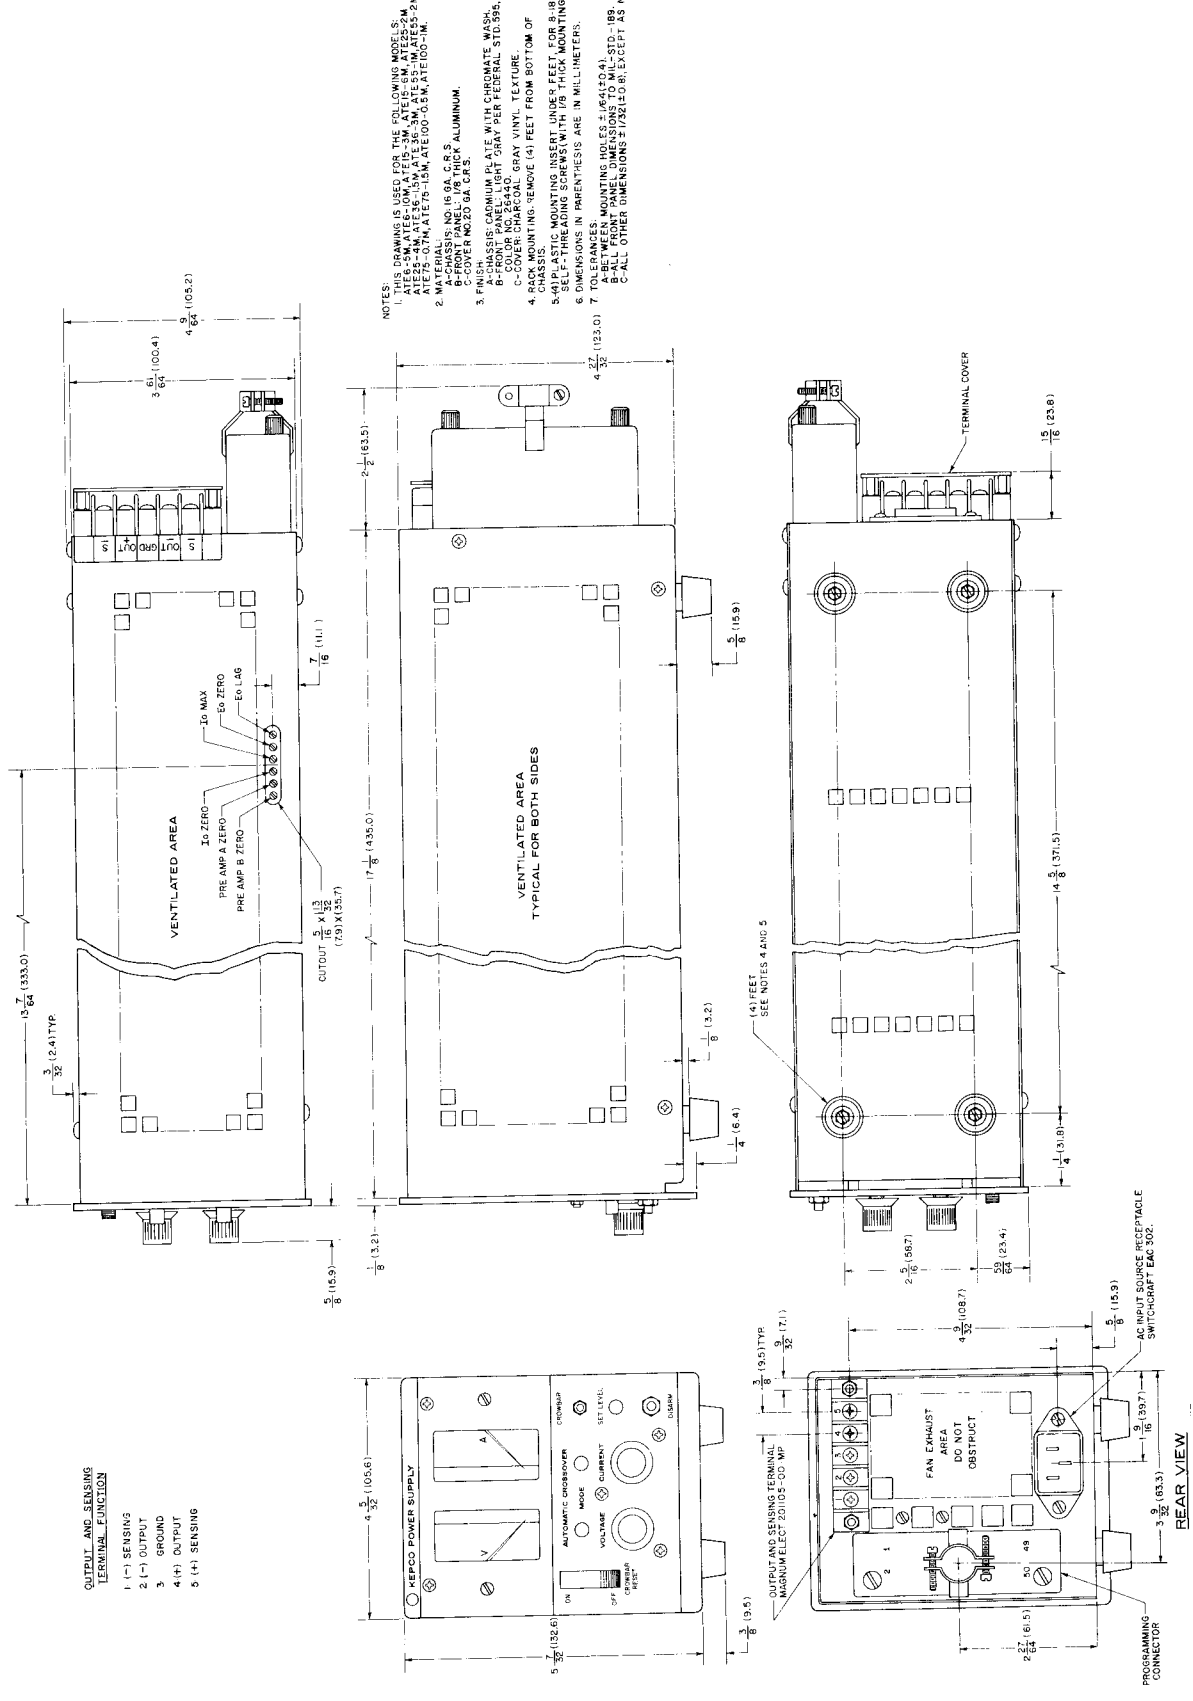

FIG. 1-2 MECHANICAL OUTLINE DRAWING.
- a) Refer to the "Mechanical Outline Drawing", FIG. 1-2 .